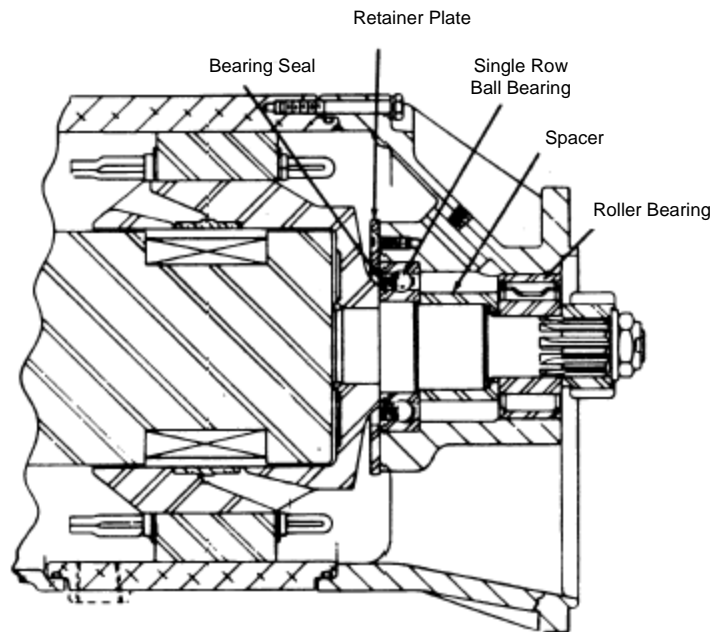

Figure 3
9. If alternator uses an 18-tooth gear, install new gear from kit. Torque to 145-155 lb ft (Figure 3). Reassemble generator.